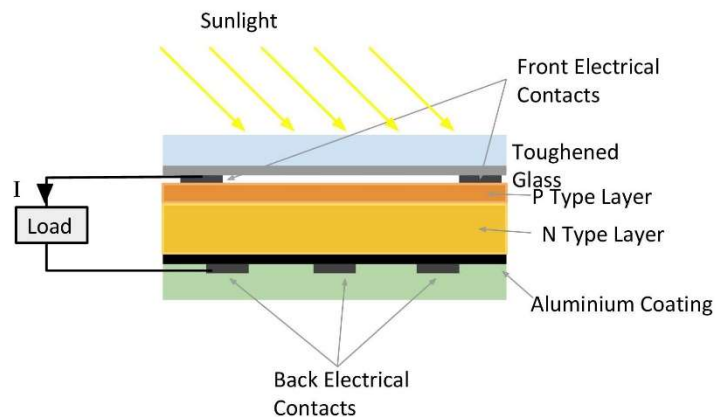

Figure 14c: Construction
1. A solar cell is basically a p-n junction connected to an external circuit as shown in *Figure 14c*.